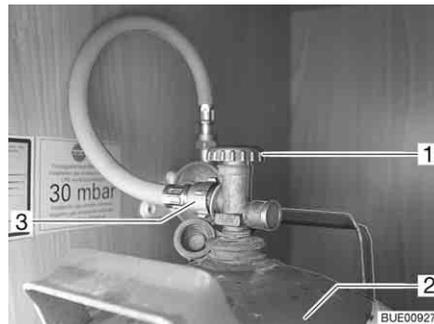

Fig. 146 Gas bottle compartment
- Close the regulator tap (Fig. 146,1) on the gas bottle (Fig. 146,2). Pay attention to the direction of the arrow.
- Unscrew the gas tube (Fig. 146,3) by hand from the gas bottle.